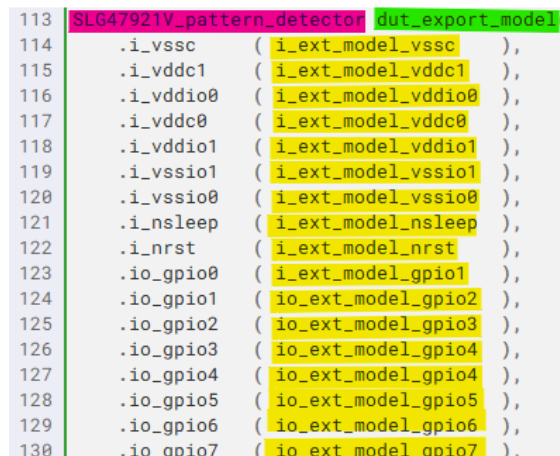

Figure 17. Instantiation of the Exported Model
6. Add an additional instance for export model – it is possible to copy and paste the existing instance. The name of instance should be same as the name of export model (marked purple in Figure 17).